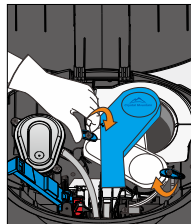

Figure 36
13. Rotate turn knobs to lock SmartFlo™ Water Cartridge in place (Figure 36)